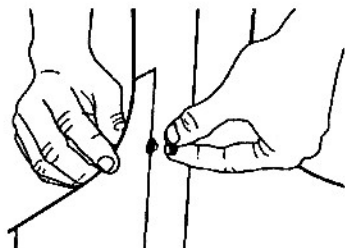

Fig. 13
21. Place a internal tooth washer (24) on the screw and attach a hex nut (23), as seen in Fig. 13. Finger tighten.